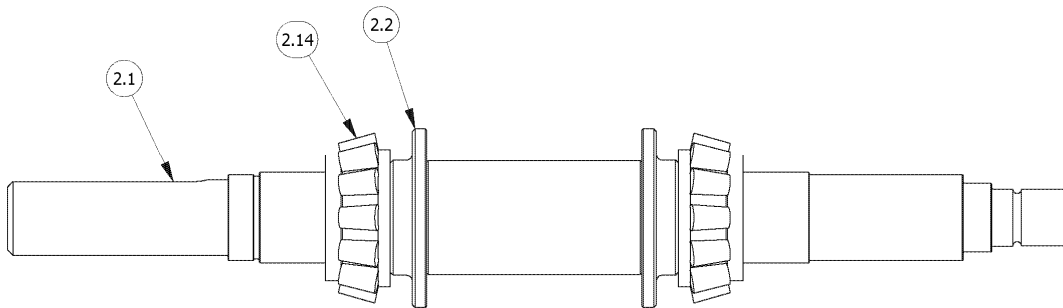

Fig 1.
1. Lightly grease or oil the bearing shoulders on Shaft(2.1). (See Fig 1)
2. Slide on a Grease Retainer(2.2) up to Shaft(2.1) shoulder. (See Fig 1)
4. Place cone of Bearing(2.14) positioned so the smaller diameter is positioned outward from the center of Shaft(2.1) and install the Bearing Cone up to Grease Retainer(2.2). (See Fig 1)